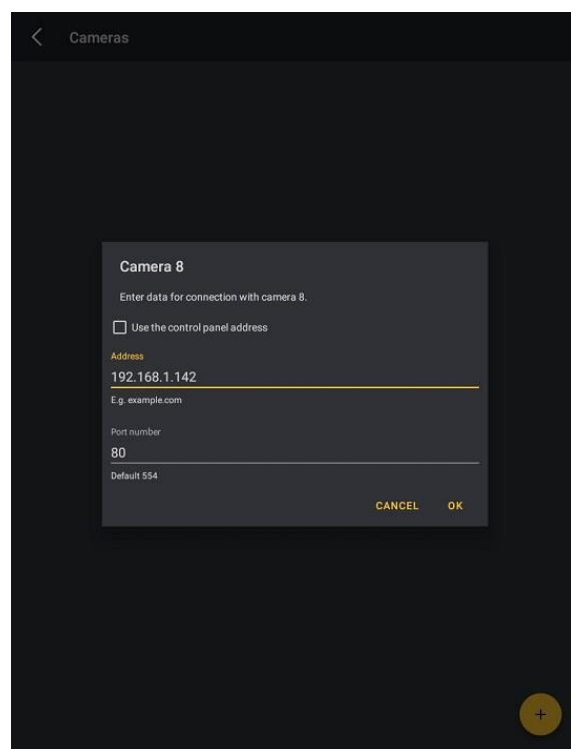

Fig. 14. Configuring the camera connection settings.
9. You can configure the connection settings manually (Fig. 14). If you want to use the control panel address, enable the “Use the control panel address” option.